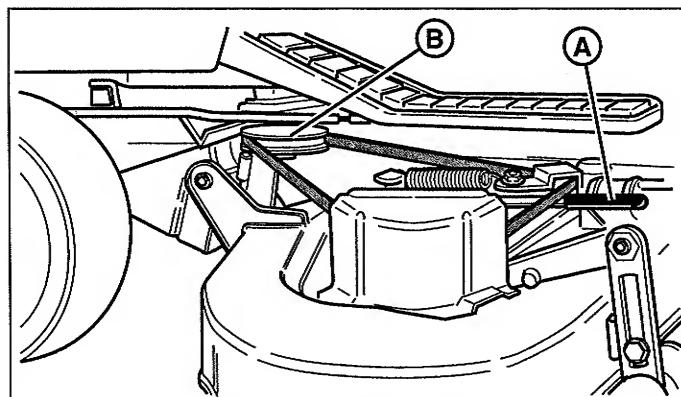

Figure 18. Removing & Installing Belt
5. See Figure 18. From left side of tractor, use the idler arm (A) to relieve belt tension. Install belt onto the PTO pulley (B).